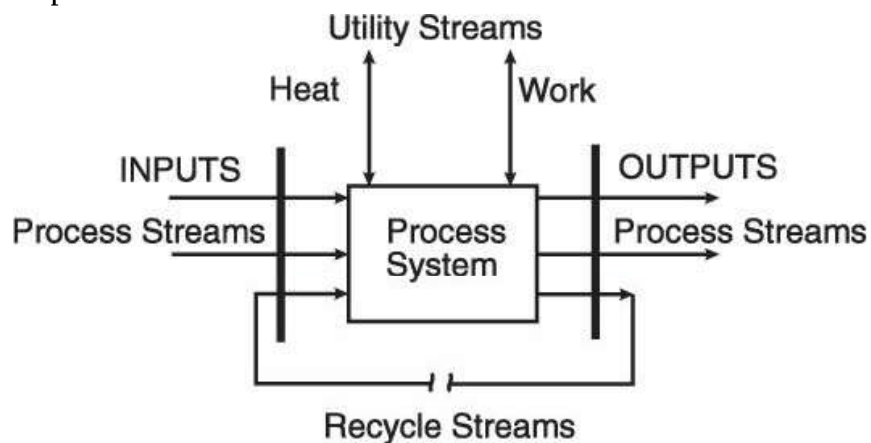

Figure 19.1. Input/Output Diagram for Chemical Process
Figure 19.1 illustrates how outputs are connected to inputs through the process system. The process system may consist of a single piece of equipment or several unit operations, with the output from one unit becoming the input to another unit. As a result, a change of input to one unit operation affects all of the downstream units. For systems containing recycle streams, the output from a unit operation returns to affect its input.
Figure 19.1 provides the input/output representation of a chemical process. It shows
- c. **Utility Streams:** Utility streams provide for the transfer of energy to or from process streams or process units. They are used to regulate temperatures and pressures required in the process. Utility stream inputs and outputs are shown at the top of Figure 19.1.
Using the input/output diagram in Figure 19.1, two classifications are identified for process analysis problems encountered in this text:
Consider the toluene hydrodealkylation process illustrated in Figure 1.5. Draw and label an input/output diagram, similar to Figure 19.1, for this process. Label all process inputs and outputs, all utility streams, and all recycles. Then pick any two adjacent units and draw their input/output diagrams together, showing how the output from one unit affects the adjacent unit.